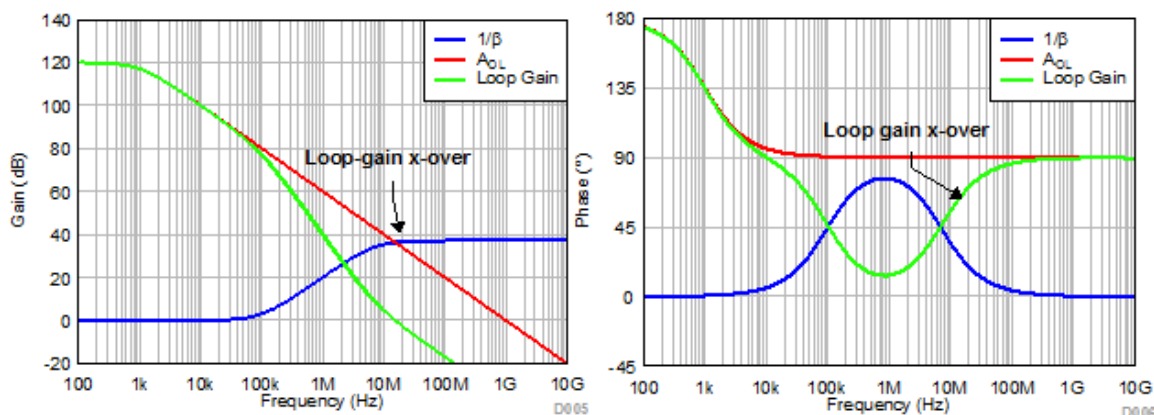

Figure 8. Simulated Loop Gain, a_{OL} And $1/\beta$ When Including the Effects of Input and Feedback Capacitance
where f_{-3dB} is the closed-loop bandwidth shown in Equation Figure 8:
- Download the application report, “Transimpedance Considerations for High-Speed Amplifiers,” for a quantitative derivation of Equations Figure 7 and Figure 8 in this post.